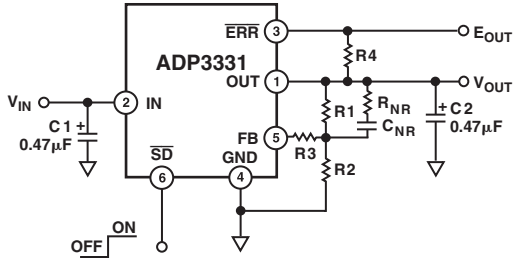

Figure 3. Noise Reduction Circuit
Noise Reduction Capacitor: A noise reduction capacitor can be used to reduce the output noise by 6 dB to 10 dB. This capacitor limits the noise gain when connected between the feedback pin (FB) and the output pin (OUT), as shown in Figure 3. Low leakage capacitors in the 10 pF to 500 pF range provide the best performance. Since FB is internally connected to a high impedance node, any connection to this node should be carefully done to avoid noise pickup from external sources. The pad connected to this pin should be as small as possible; long PC board traces are not recommended. When adding a noise reduction capacitor, use the following guidelines:
The ADP3331 has an adjustable output voltage that can be set by an external resistor divider. The output voltage will be divided by R_1 and R_2 , and then fed back to the FB pin. Refer to Figure 3.